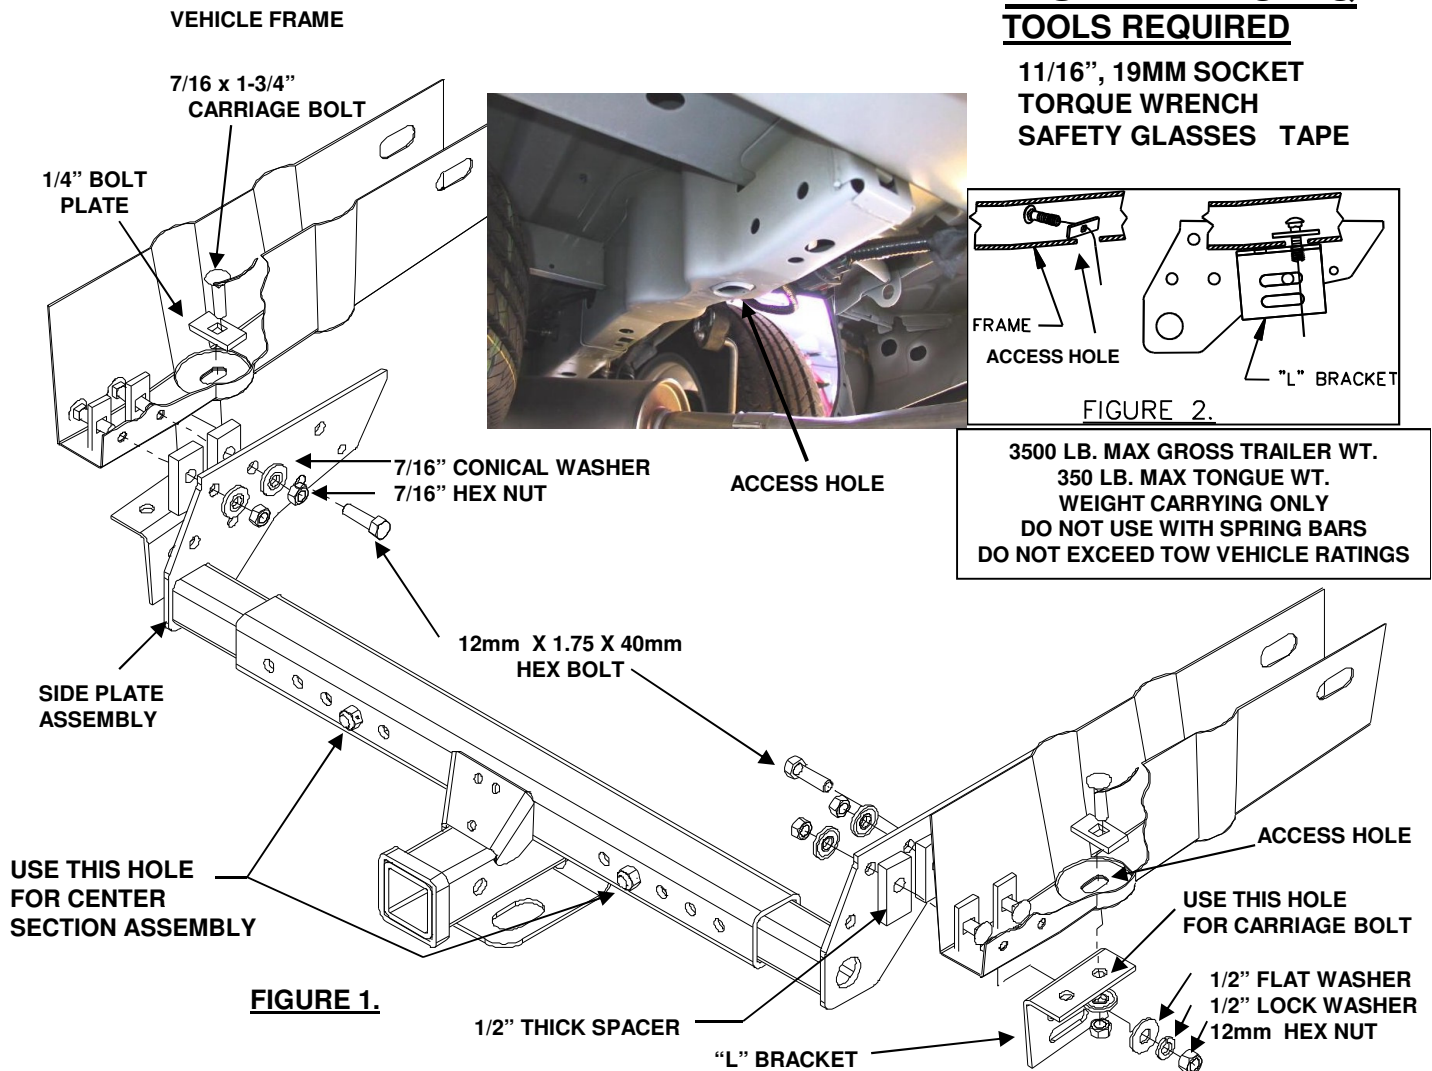

FIGURE 1.
8. Line up hole in "L" bracket with 7/16" carriage bolt and loosely install 7/16" conical washer and hex nut on bolt. Using a 12mm x 40mm hex bolt (fully threaded), 1/2" flat washer, and 12mm hex nut, attach "L" bracket to side plate as shown in figures 1 & 2 each side as shown.